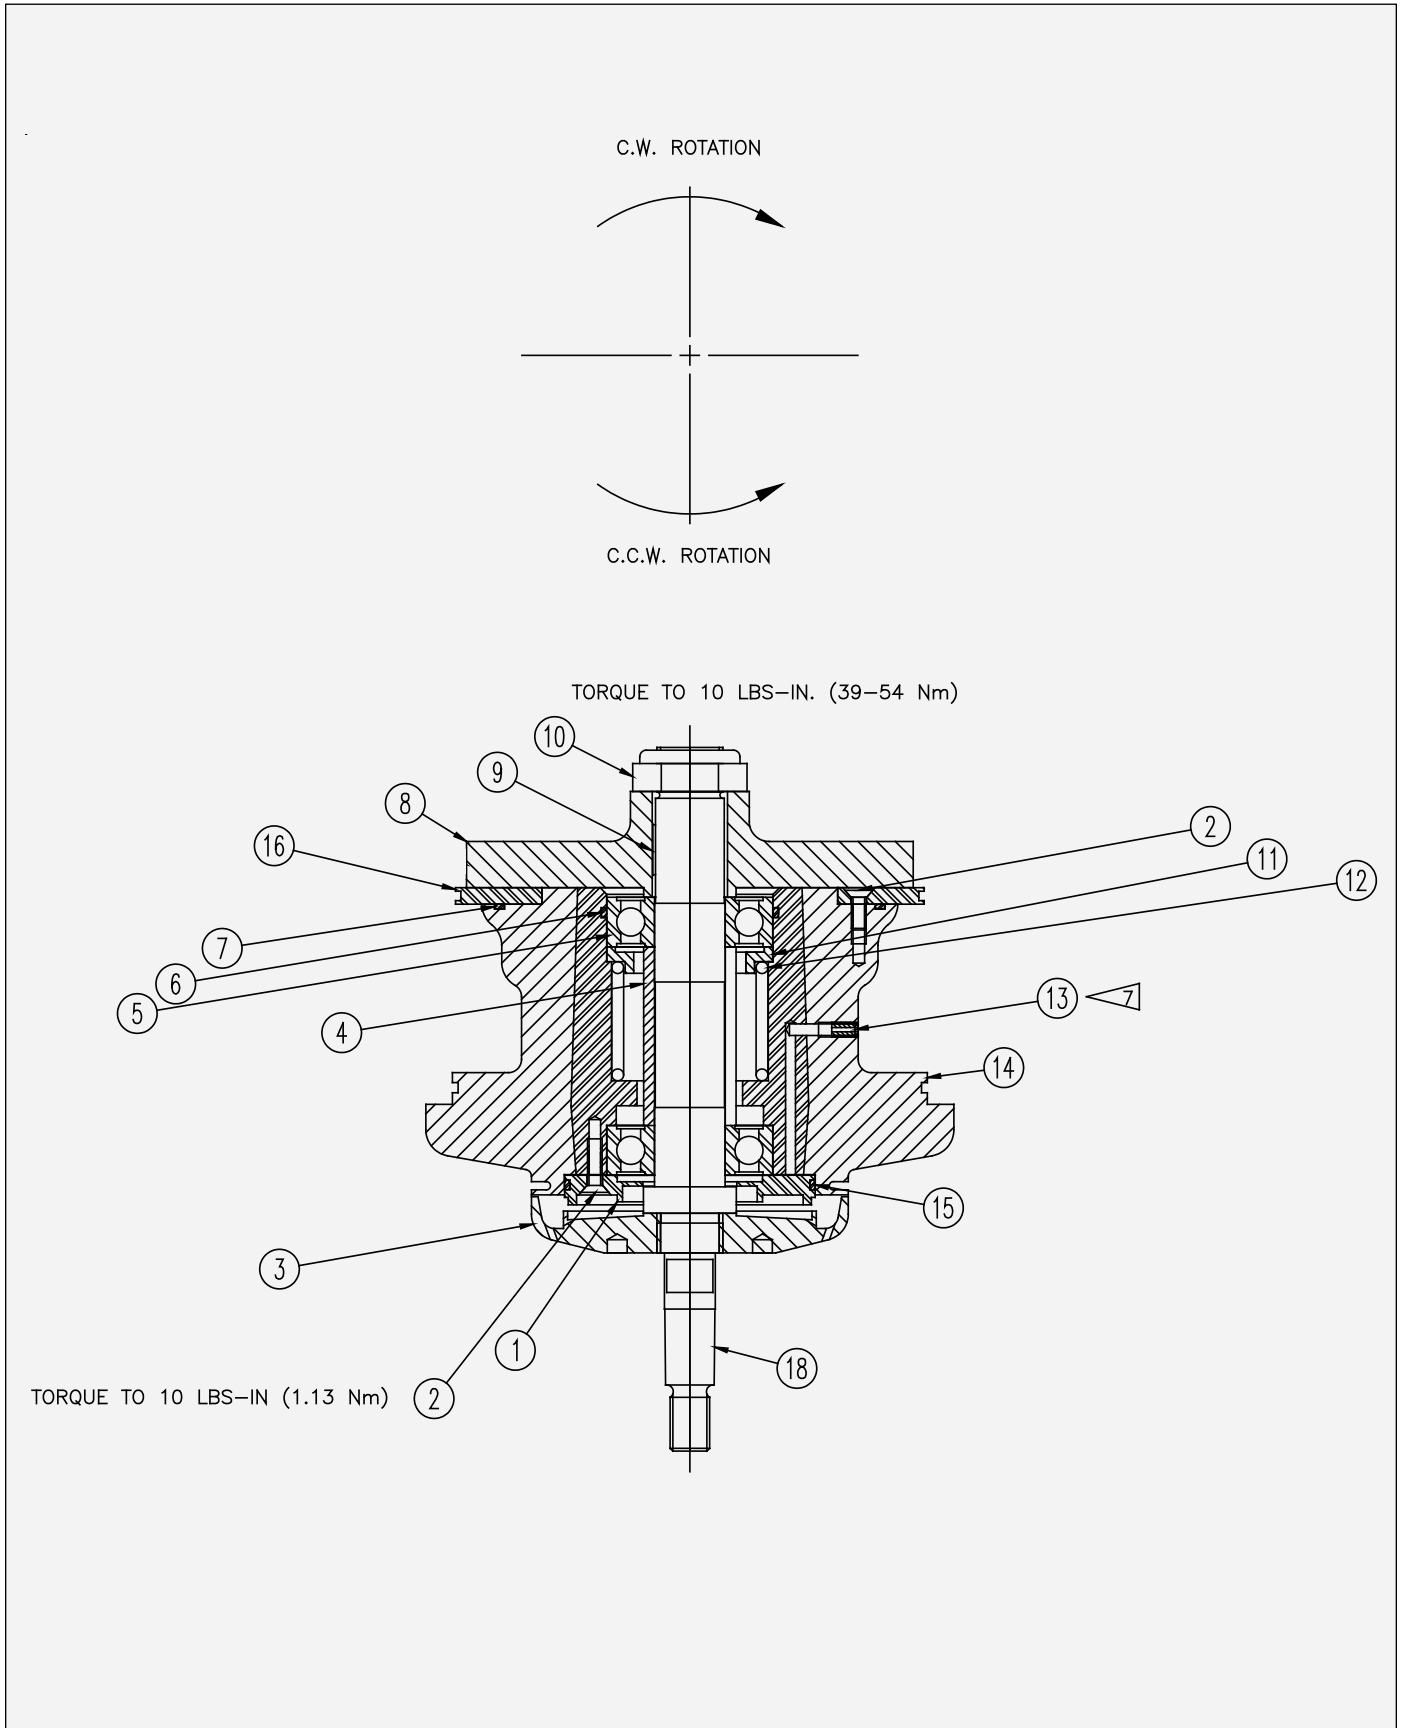

Figure 19: 70879-XXX Turbodisk Turbine Cartridge Assembly
70879-XXX TURBODISK TURBINE CARTRIDGE ASSEMBLY - PARTS LIST (Figure 19)
TABLE "A" (Figure 19)
** PARTS LIST BULLET DEFINITIONS (Figure 19)